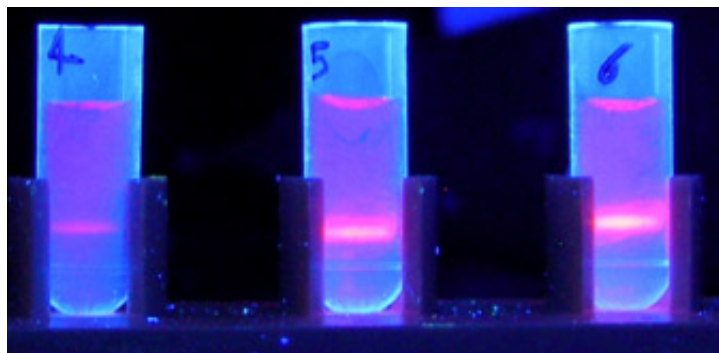

Figure 2. Genomic DNA band illuminated by blue light after CsCl gradient centrifugation.
- Visualize the DNA with blue light transilluminator, or if unavailable, use long wavelength UV light, in a dark room. Wear a pair of amber filter glasses to see the DNA band. See Figure 2.
When this protocol is done correctly, you should see a gel image after step 4.4 in Determination of DNA quality similar to Figure 1. Actual DNA concentration of extracts will vary depending on the source of the sample. After step 5.7 in CsCl gradient centrifugation, genomic DNA illuminated by blue light should look similar to Figure 2.